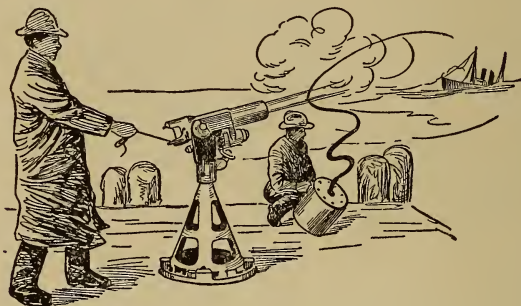

FIG. 109. A NOVEL LIFE-SAVING GUN
**Some Big Inventions Needed.—***Safety First.*—That there were 38,000 deaths, 500,000 seriously injured and 2,000,000 slightly injured persons caused by all manner of accidents in 1915, shows how badly improvements are needed for all kinds of machinery, in the operation of mines, railroads and steamships and in the manufacture of certain chemical products such as phosphorus matches and dynamite. There is money and lots of it in inventions that have for their object the safeguarding of human health, limb and life. Fig. 109 shows a life-saving gun.